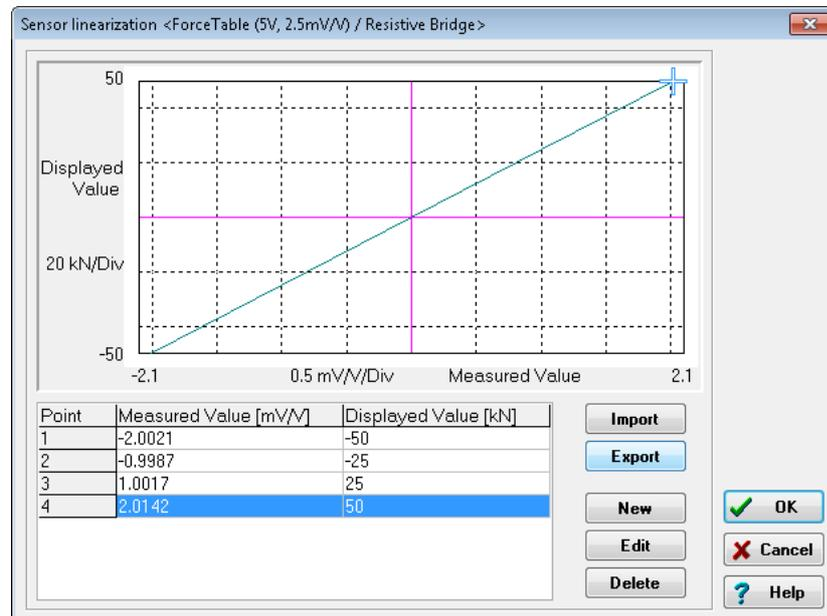

Fig. 6-9 Entering the scaling table.
7. Edit the existing values or generate further rows with **New** and specify the values for your sensor (Fig. 6-9). The rows sorted based on the entered values.